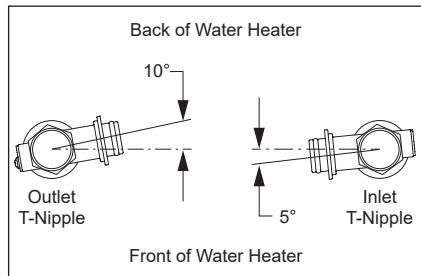

Figure 126 - Inlet and Outlet T-Nipple Orientation
**IMPORTANT:** Before removing the inlet and outlet t-nipples, observe the rotational orientation of the valves. Figure 126 below provides the factory installed offset between the t-nipples. T-nipples **MUST** be installed to the factory offset orientation to properly accommodate the Smart Valve and hose assembly. Failure to do so may result in leaks and potential property damage.
Hand tighten the outlet t-nipple to the tank nipple. Use a basin wrench to engage the hexagonal flats located at the top of the outlet t-nipple and tighten such that its orientation is angled 10° toward the back of the water heater as shown in Figure 126.
- 24** Repeat the procedure as outlined in Step 23 to install the inlet t-nipple. Tighten inlet t-nipple such that its orientation is angled 5° toward the front of the water heater as shown in Figure 126.